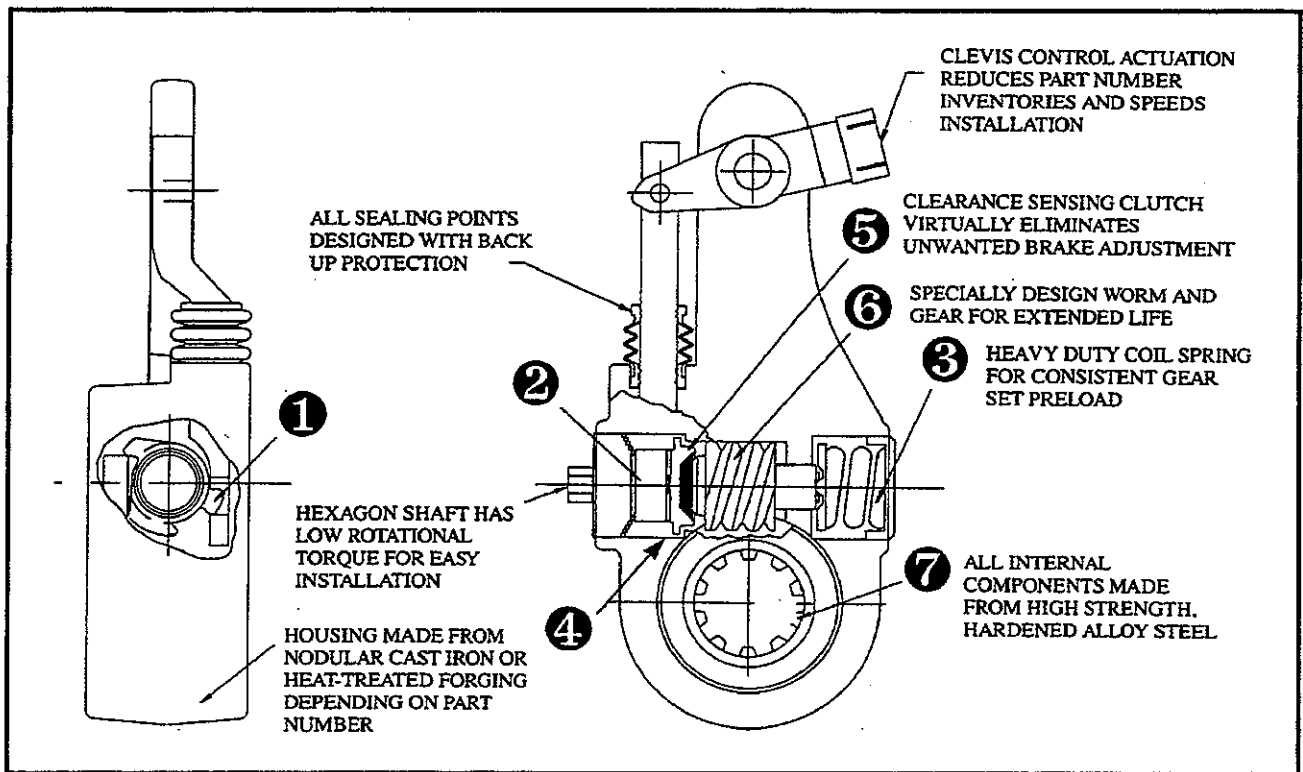

Figure 1—Automatic Slack Adjuster
As the brakes are applied, the slack adjuster's rotation moves the shoes and linings into contact with the brake drum. That movement also lifts the actuation rod through a pre-set, free travel dimension that is normal lining to drum clearance ❶. (See Figure 1—Automatic Slack Adjuster.)